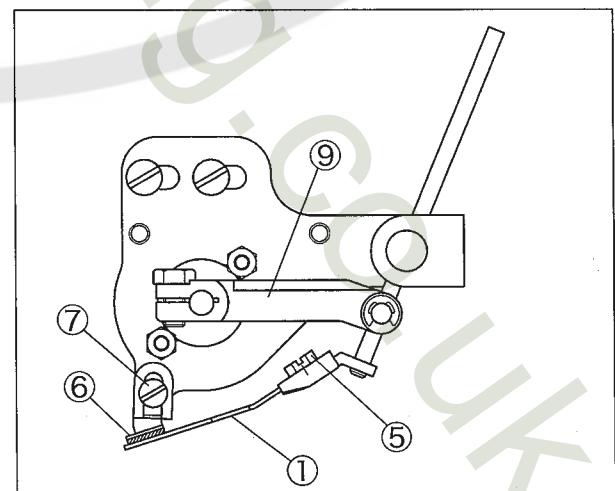

Fig. 31
Loosen the screw⑦ to hold the needle thread slightly with the thread clamp rubber⑥ and the wiper① when the wiper① returns. (Fig. 31)